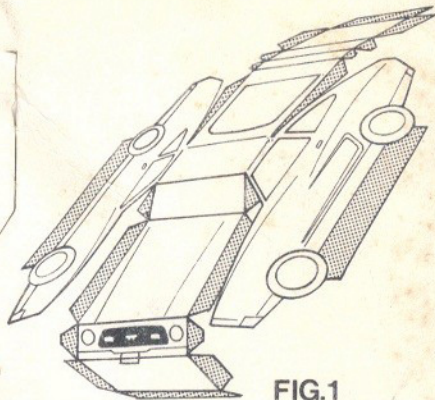

FIG. 1
2. Form your Mustang II by gently creasing the scores as shown in Figure 1.